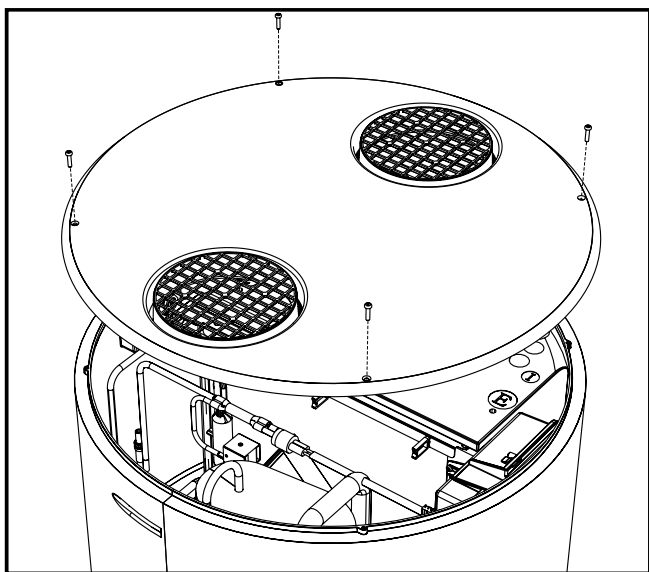

fig. 83- Top cover removal
- Remove the top cover by first undoing the locking screws (fig. 83).